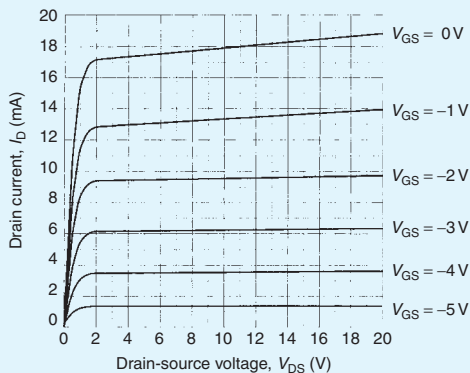

Figure 12.28
7. The output characteristics of a JFET are shown in Fig. 12.28. If this device is used in an amplifier circuit operating from an 11 V supply with a gate-source bias voltage of $-3\ \text{V}$ and a load resistance of $900\ \Omega$, determine (a) the quiescent values of drain-source voltage and drain current, (b) the peak-peak output voltage when an input voltage of 2 V peak-peak is applied, and (c) the voltage gain of the stage.